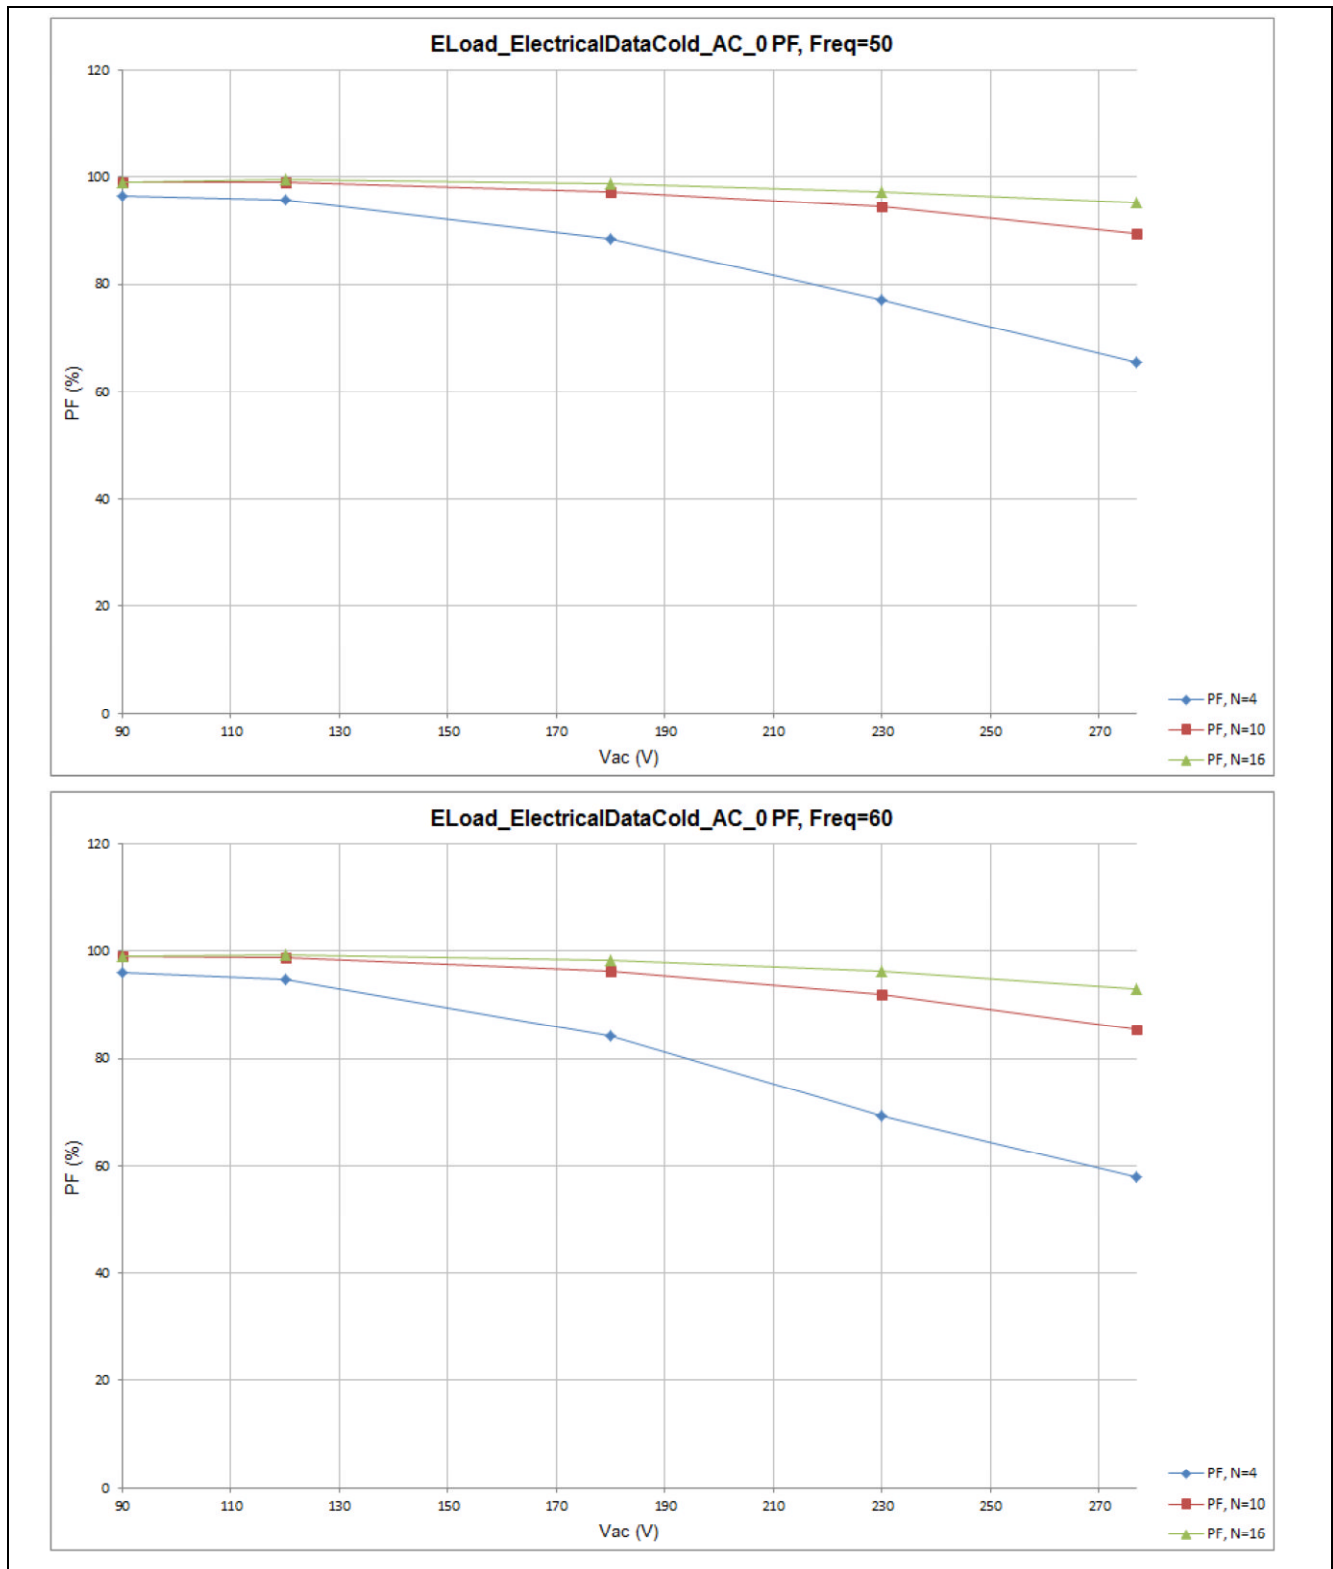

**Figure 21 Measured Time-to-light**
**Figure 21** shows the time-to-light as measured on the 20 W ICL8105 evaluation board to be < 500 ms. The time-to-light is worst for the lowest input voltage and highest load.